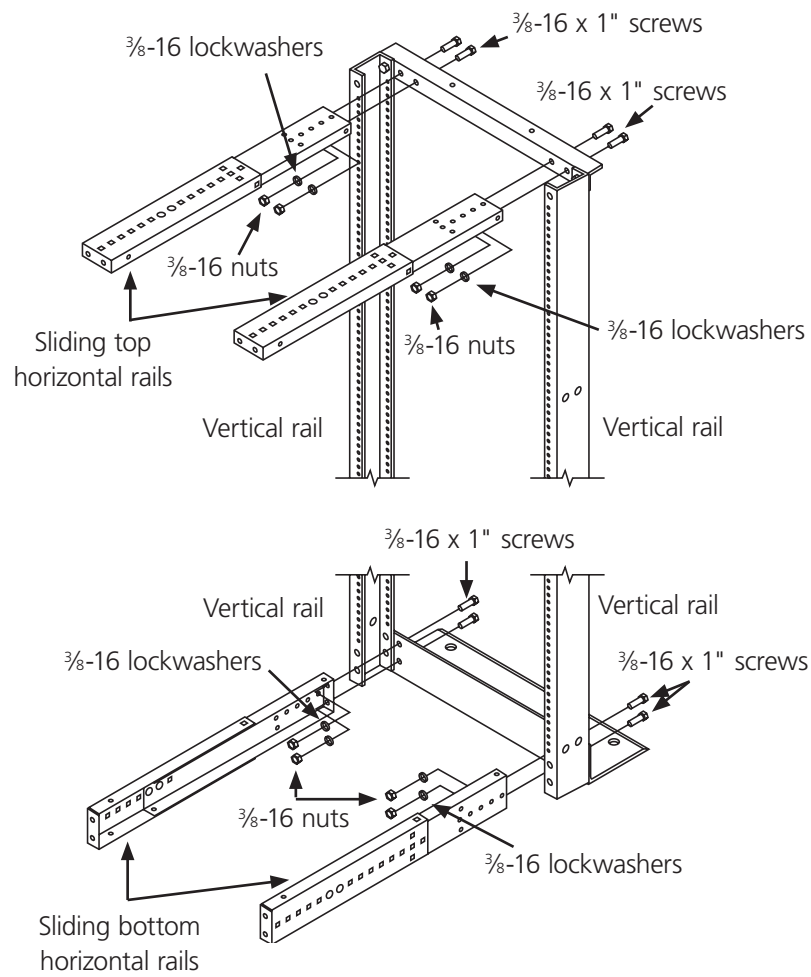

Figure 8. Connecting the top and bottom horizontal rails to the rack's vertical rails (17.75" to 28.5"D [45.1 to 72.4 cm] in one-inch [2.5-cm] increments).
5. Once the sliding top and bottom horizontal rails are assembled, you're ready to connect them to the rack's vertical rails. Use (8) 3/8-16 x 1" screws, (8) 3/8 lockwashers, and (8) 3/8-16 nuts. Figures 8 and 9 show the installation for two depth ranges.